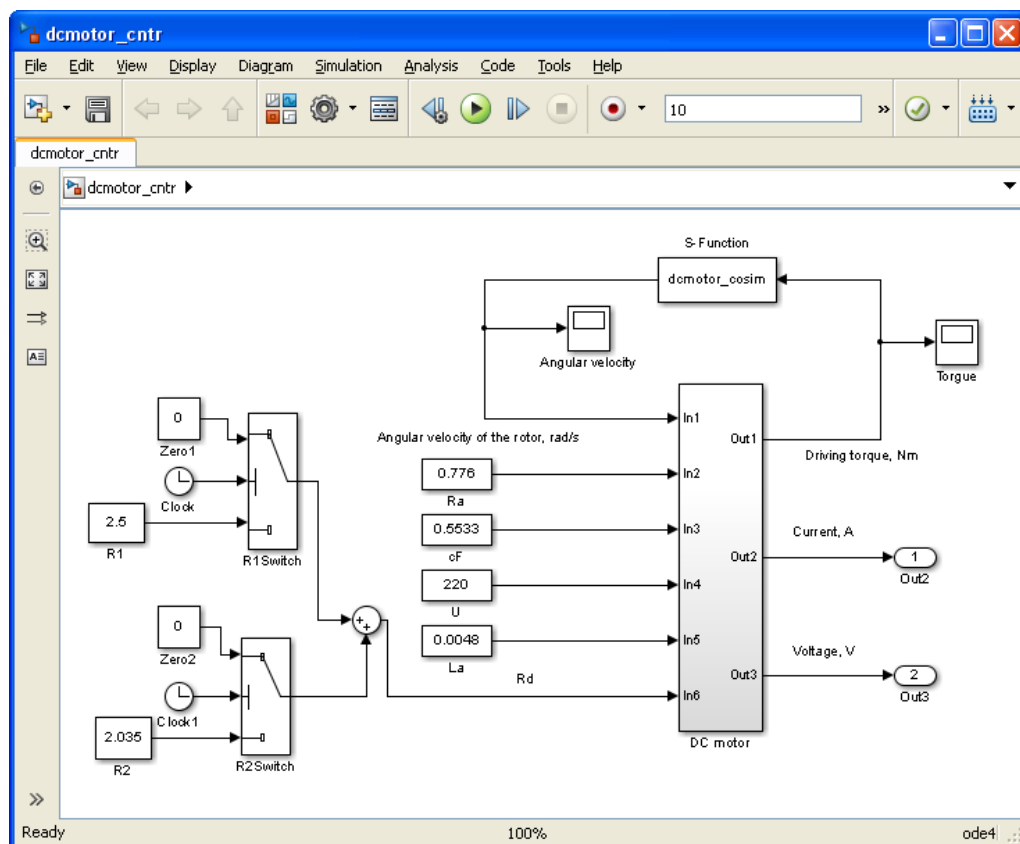

Figure 4.7. Matlab/Simulink model of DC motor with S Function
Prepared Matlab/Simulink model of the DC-motor with the S Function for connection with mechanical part described as UM model is shown in Figure 4.7. The model of the **DC motor** subsystem is shown in Figure 3.12. S-Function has one input (driving torque) and one output (shaft angular velocity).
The model presented in Figure 4.7 is situated here:
2. Load **dcmotor_cosim** with the model depicted in Figure 4.7.